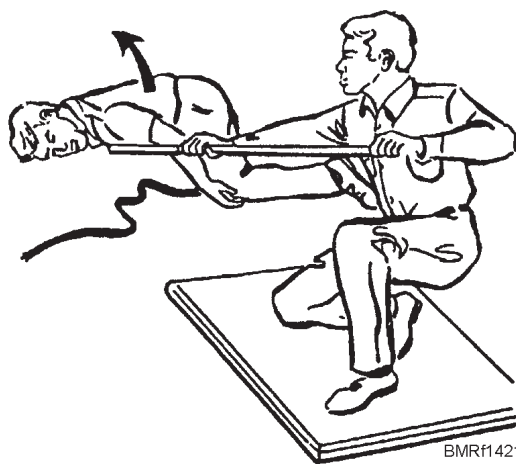

Figure 14-21.—Pushing a victim away from a power line.
- If you cannot find the switch, you should try to remove the wire from the victim with a dry broom handle, branch, pole, oar, board, or similar nonconducting object (fig. 14-21).